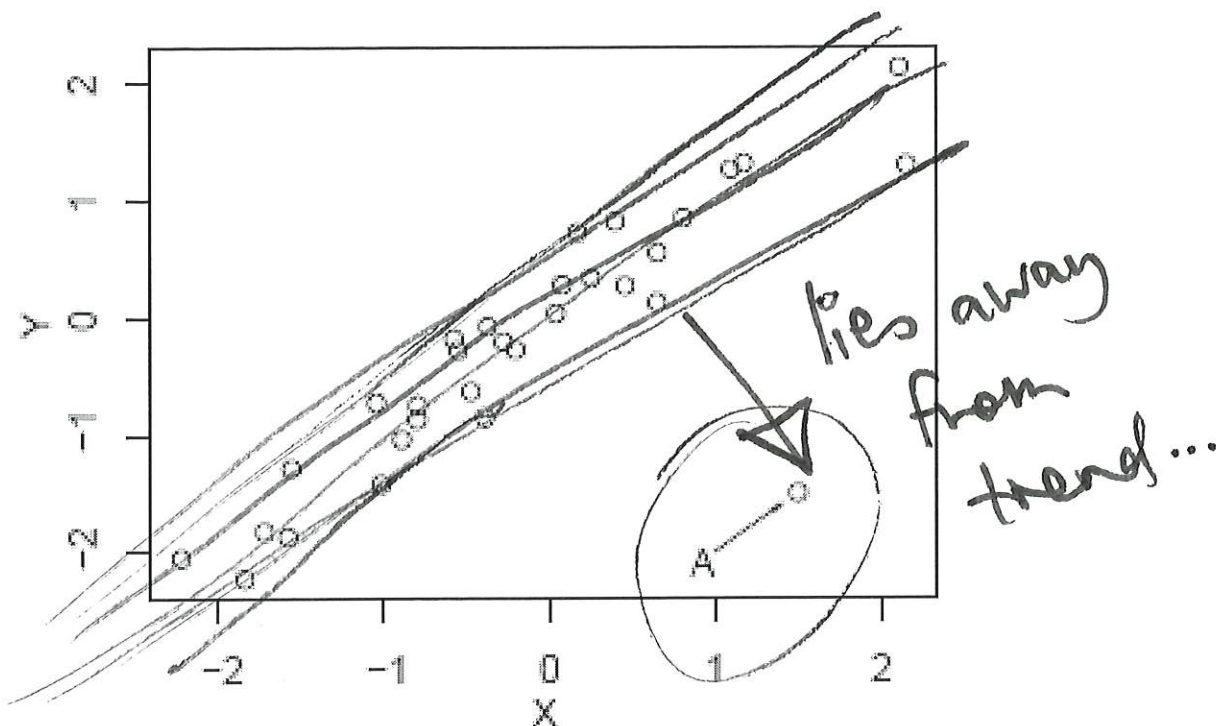

Figure 4: A scatter plot.
36. Consider the point labelled "A" in Figure 4.